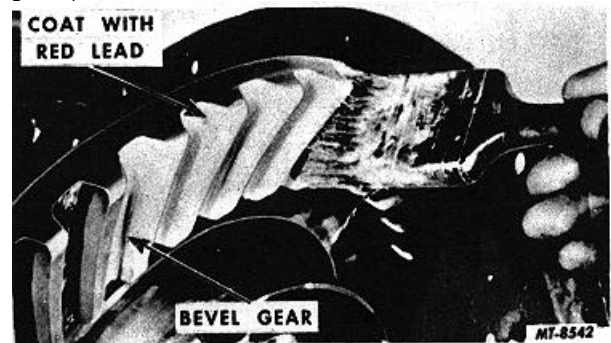

Fig. 19 Painting Gear Teeth for Obtaining Tooth Contact Impressions
41. Apply oiled red lead lightly to the hypoid gear teeth (Fig. 19).